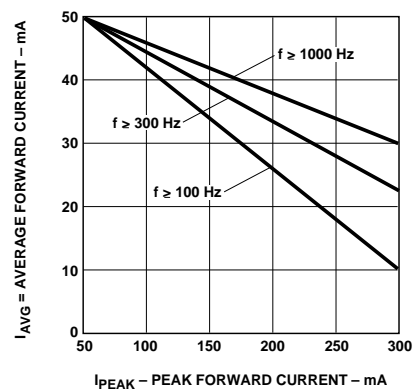

Figure 7. Maximum Average Current vs. Peak Forward Current.
2. Refer to Figure 7 to establish pulsed operating conditions.